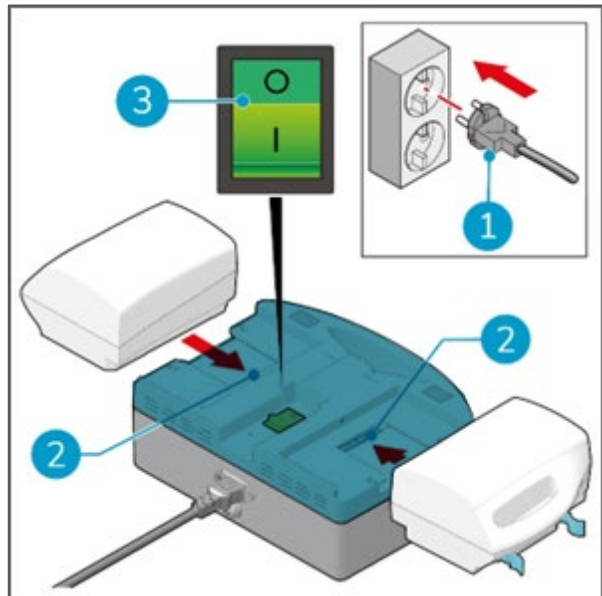

Figure 7
1. Put the main power cable into the wall socket (Figure 7, pos 1).
2. Align each battery with the charging dock (Figure 7, pos 2) and insert each battery, until you hear a "click". The batteries are ready for charging.